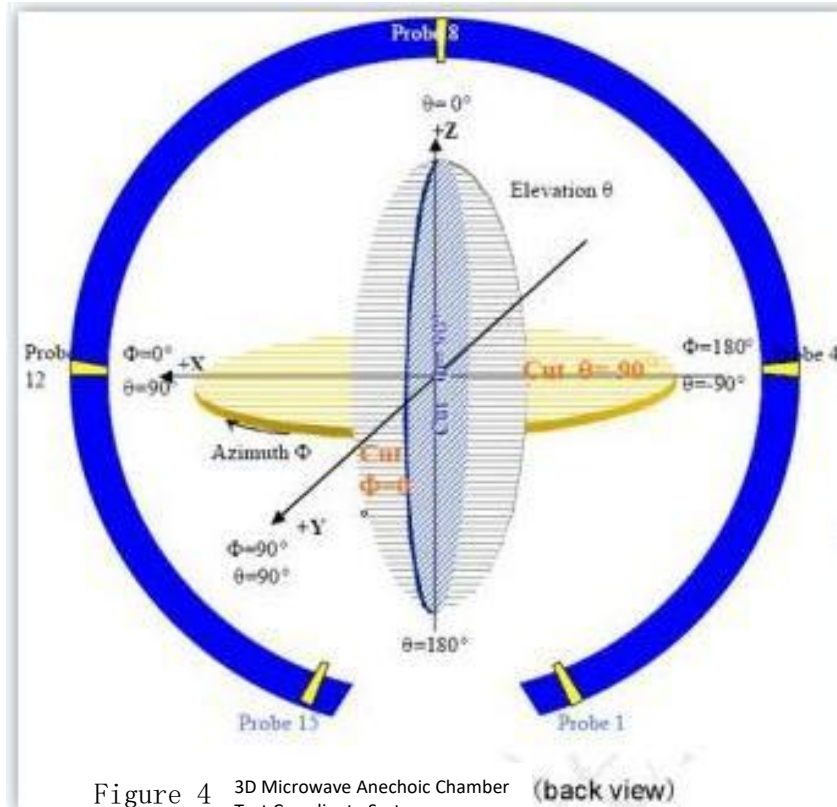

Figure 4 3D Microwave Anechoic Chamber Test Coordinate System (back view)
(4) The packaged antenna can be placed in a cardboard box and can hold 5 large bags. Each box can hold 5000PCS (Figure 4). (Based on actual packaging)